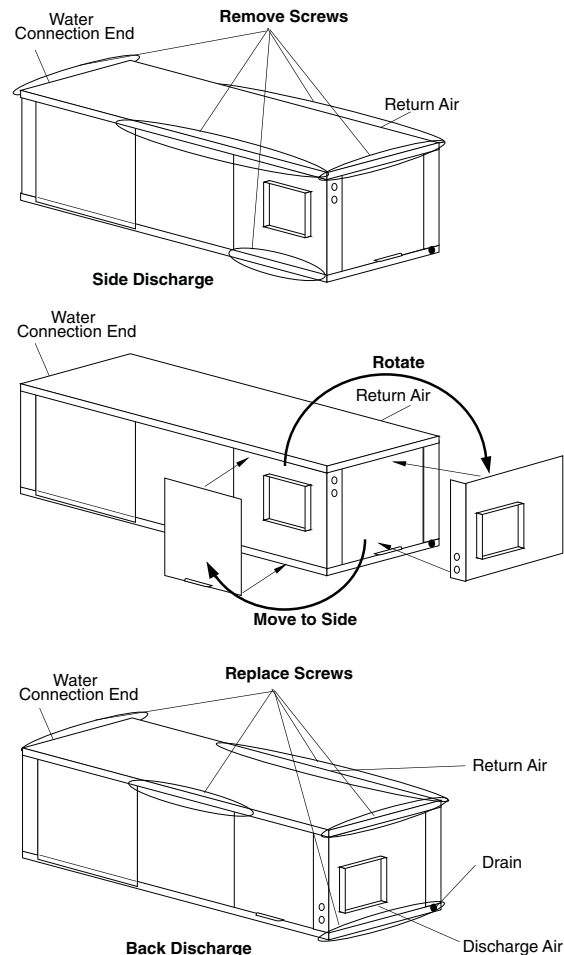

Fig. 3 — Conversion Left Return, Side Discharge to Back Discharge
FIELD CONVERSION OF DISCHARGE AIR — The discharge air of the 50RHE horizontal units can be converted between side and back discharge in the field. The conversion process is the same for right and left return configurations. See Fig. 3 and 4.
1. Remove screws to free the top and discharge panels. See Fig. 3.